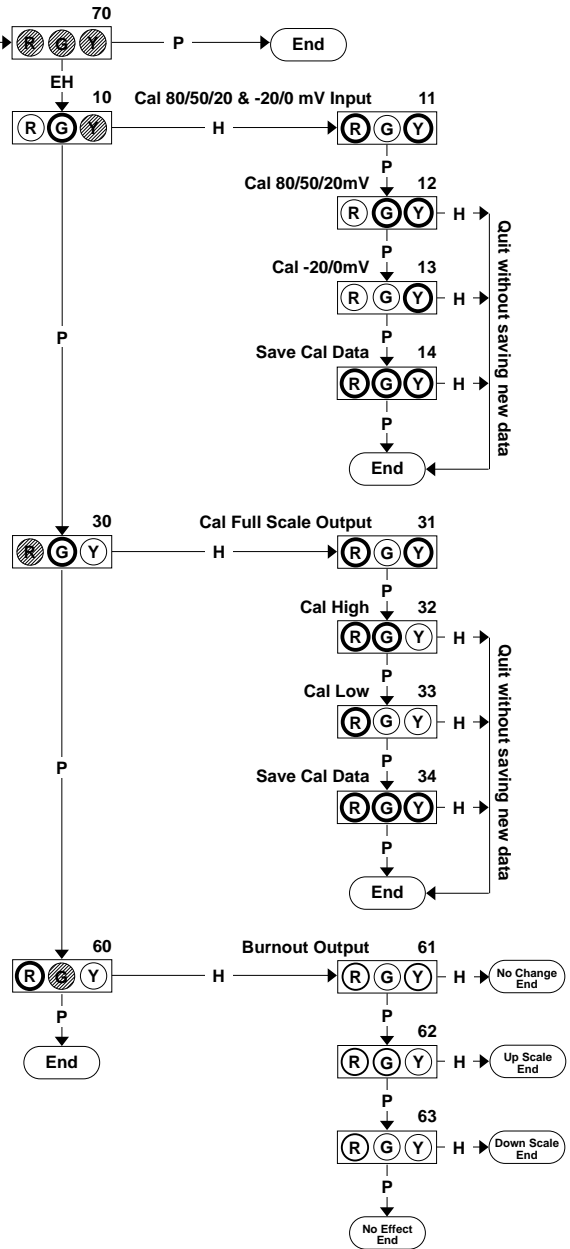

Figure 3: WV428 Calibration Flowchart
1. Connect the input to a thermocouple simulator with your desired t/c type and the output to a voltage or current meter. Apply power and allow the system to reach thermal equilibrium. Refer to Figure 3 for a detailed flow chart of the procedure. The section in the dotted-line box is all that is required for the user to calibrate operational input and output, and is all that is described in this procedure.